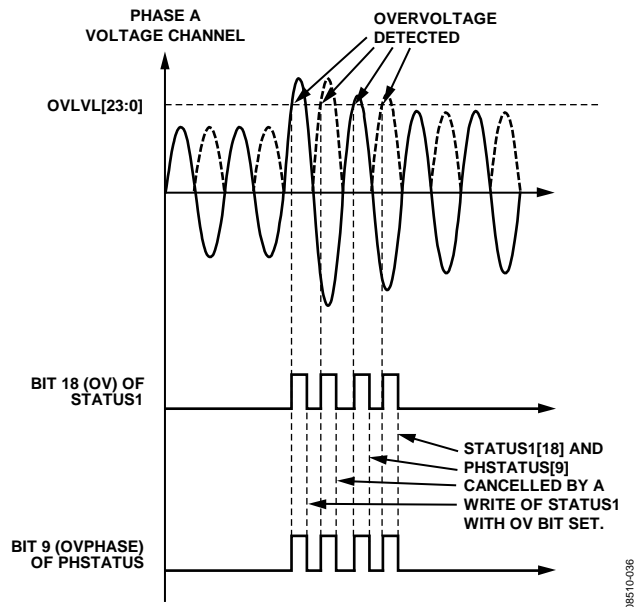

Figure 52. Overvoltage Detection
The ADE7854/ADE7858/ADE7868/ADE7878 detect when the instantaneous absolute value measured on the voltage and current channels becomes greater than the thresholds set in the OVLVL and OILVL 24-bit unsigned registers. If Bit 18 (OV) in the MASK1 register is set, the  $\overline{\text{IRQ1}}$  interrupt pin is driven low in case of an overvoltage event. There are two status flags set when the  $\overline{\text{IRQ1}}$  interrupt pin is driven low: Bit 18 (OV) in the STATUS1 register and one of Bits[11:9] (OVPHASE[2:0]) in the PHSTATUS register to identify the phase that generated the overvoltage. The Status Bit 18 (OV) in the STATUS1 register and all Bits[11:9] (OVPHASE[2:0]) in the PHSTATUS register are cleared, and the  $\overline{\text{IRQ1}}$  pin is set to high by writing to the STATUS1 register with the status bit set to 1. Figure 52 presents overvoltage detection in Phase A voltage.